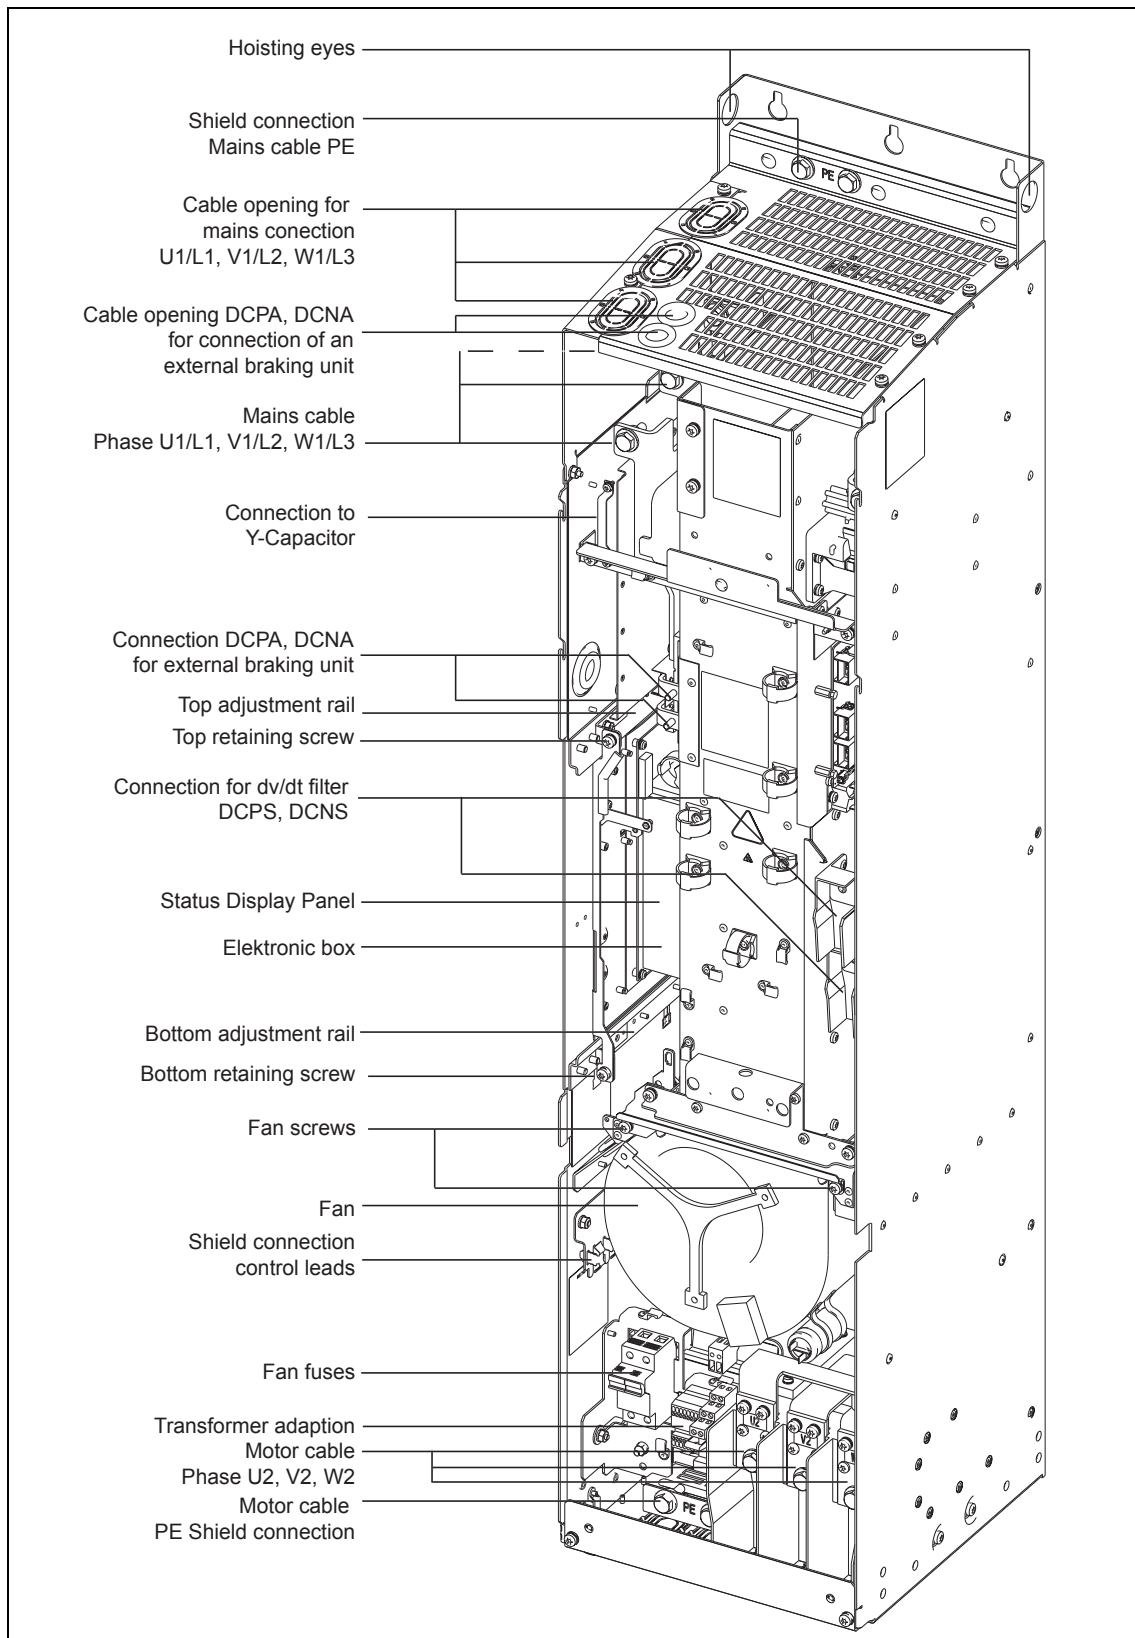

Fig. 2-7 Connection overview for Frame Size FX
- Connection overview for Frame Size FX (Fig. 2-7)